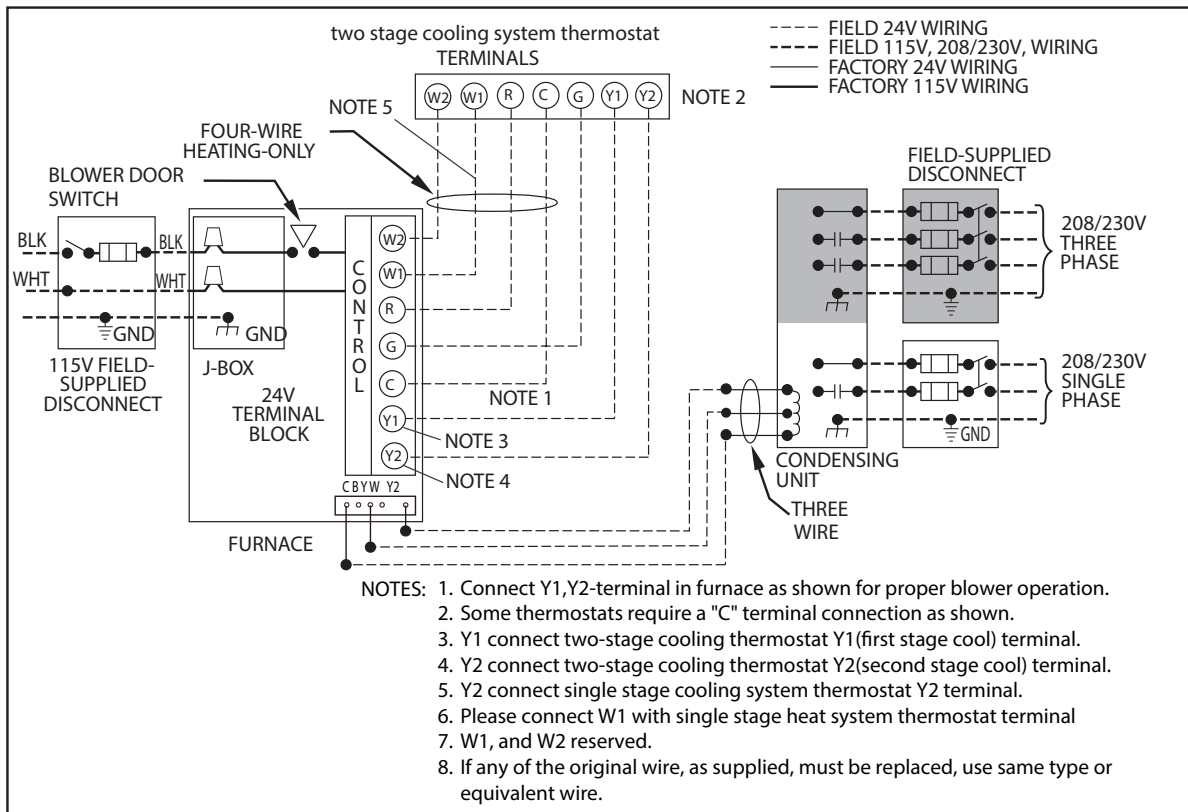

Fig.9-3 Heating and Cooling Application Wiring Diagram with 2-Stage Heating Thermostat
3. Route furnace power wires through holes in electrical box and J-Box bracket, and make field-wire connections in electrical box. Use best practices (NEC in U.S. and CSA C22.1 in Canada) for wire bushings, strain relief, etc. Route and secure field ground wire to green ground screw on J-Box bracket, OR FURNACE FAIL TO OPERATE. Connect line voltage leads as shown in Fig. 9-3. Reinstall cover to J-Box. Do not pinch wires between cover
11. Complete electrical box wiring and installation. Connect line voltage leads as shown in Fig. 9-3. Use best practices (NEC in U.S. and CSA C22.1 in Canada) for wire bushings, strain relief, etc.
5. Connect line voltage leads as shown in Fig. 9-3.